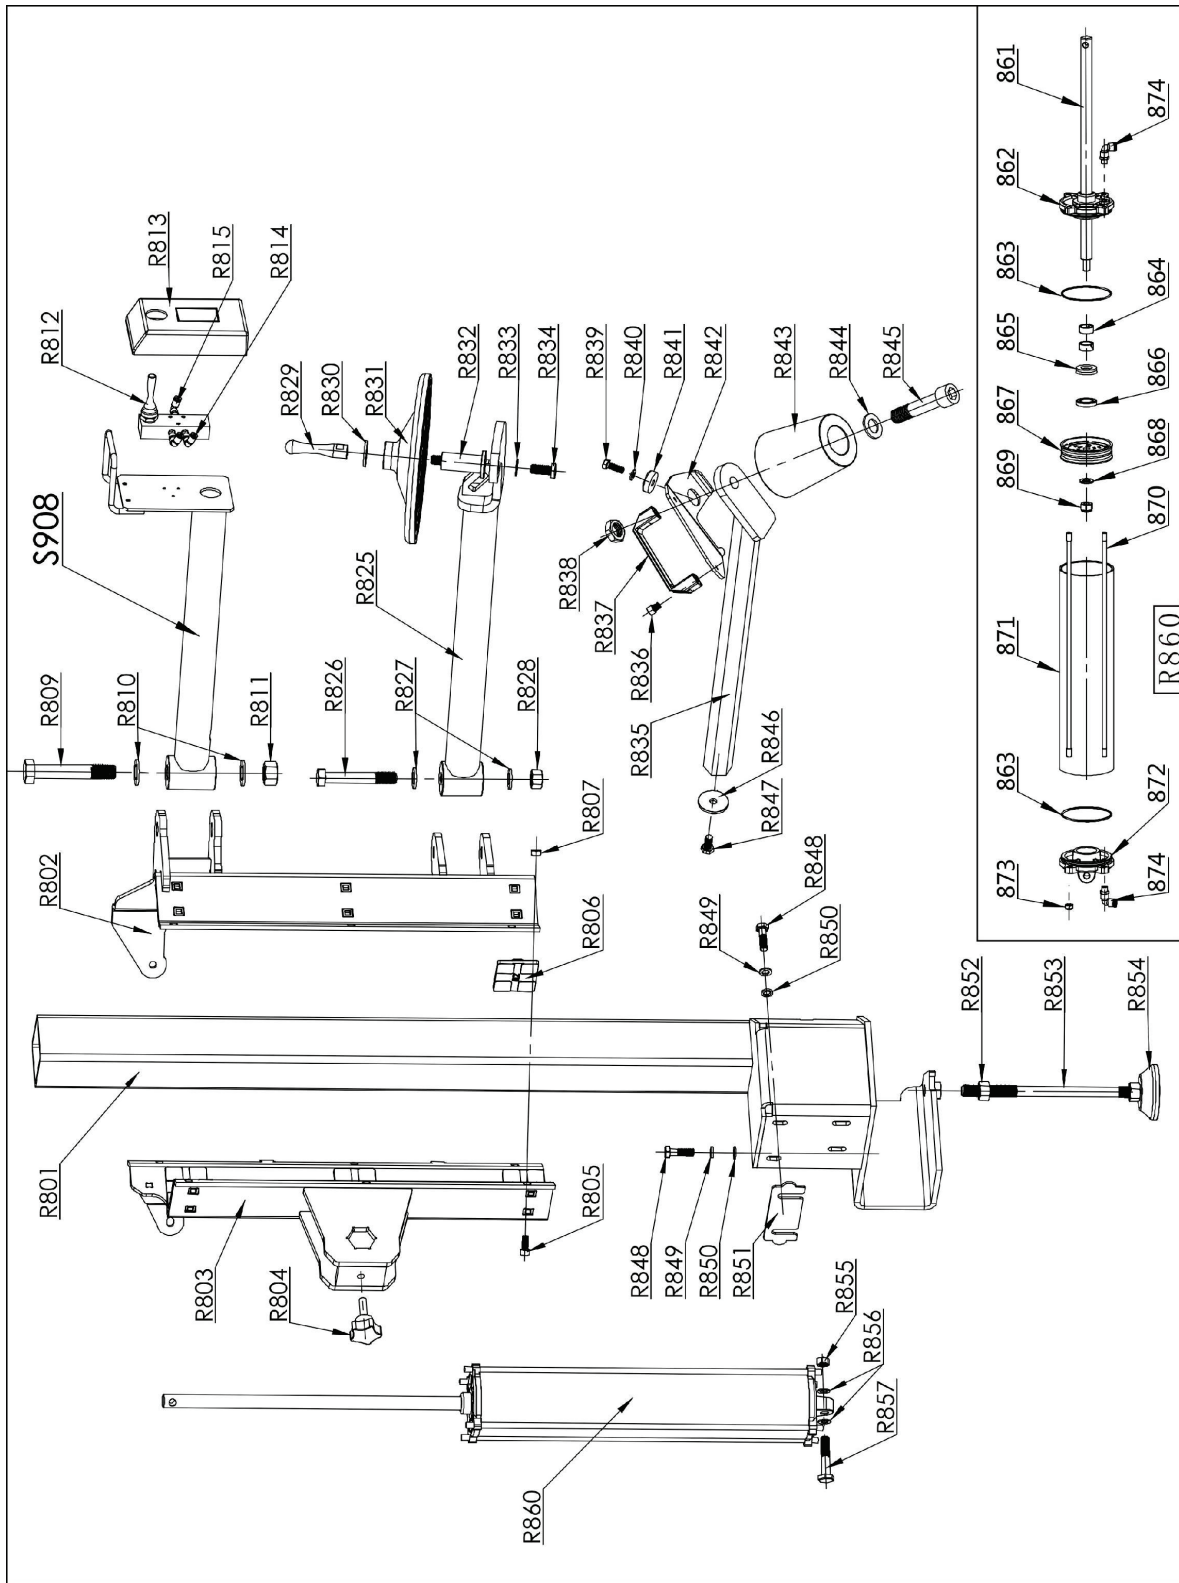

Fig.15
1011814 main body② (Fig.15)
Remark: Other spare parts in Fig. 15, please refer to 《①spare part list》.
15.Exploded Drawings ①